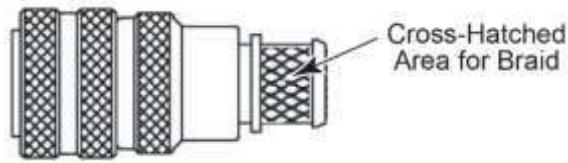

Figure 25
(27) Pull copper braid over the back of the backshell so it completely covers the cross-hatched area (Figure 25) on the back of the backshell. For AF-P1 and AF-P2 only, secure copper braid under backshell saddle clamp and tighten clamp.